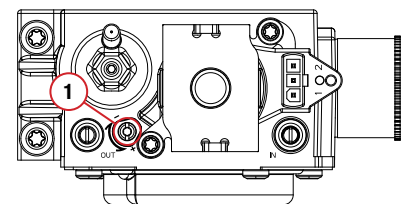

Fig.4.
1. Unscrew (anti-clockwise) the throttle all the way out until it comes to a stop (DO NOT force it past this point). (Fig. 4)